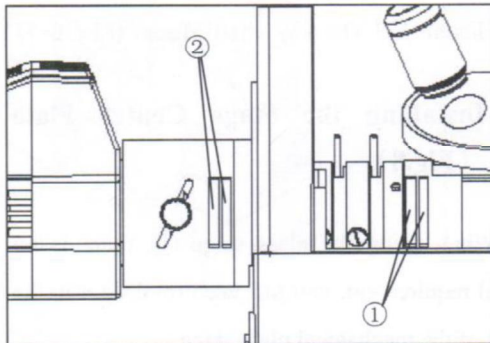

Fig.13
2-7 Mounting Filters and Polarizer (Fig.13)
For polarization observation, insert the polarizer ② into the right jack, as shown in Fig.13.